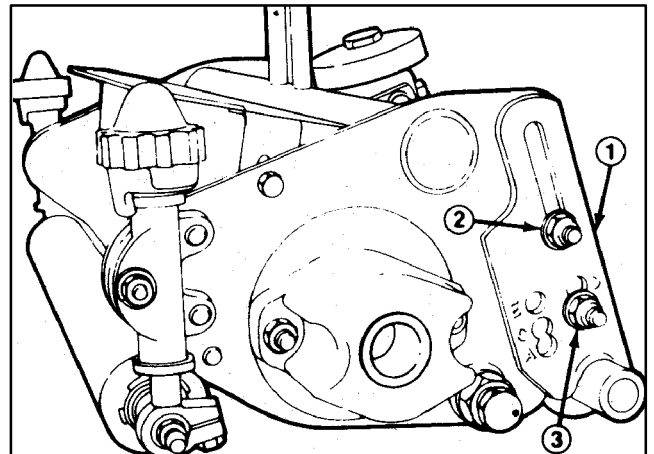

Figure 2
2. Assemble rear Height of Cut brackets to desired position. Loosen top capscrew and nut and remove bottom nut and bolt on right and left hand sides of cutting unit (Fig. 2).